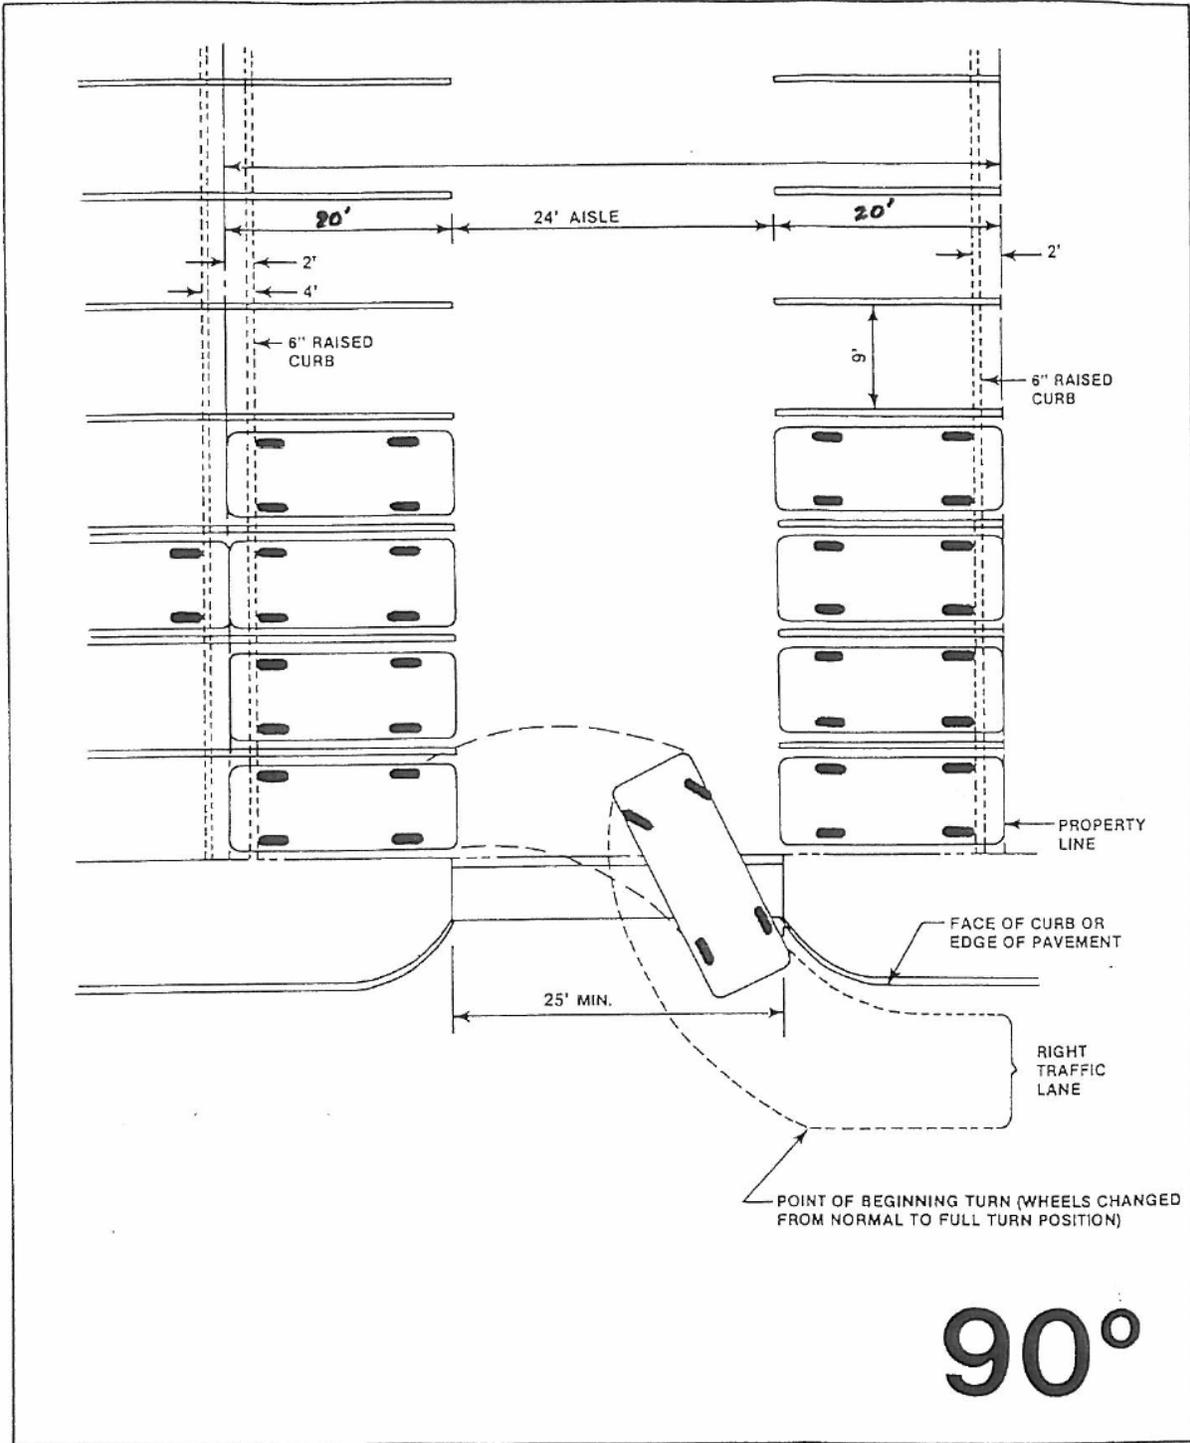

Figure 2.6a: 90° Parking – Double Row
- a) Ninety-degree parking (Figures 2.6a and 2.6b) – All parking spaces shall be a minimum of nine (9) feet in width. Each parking space adjacent to a building shall not be less than twenty (20) feet in length. Dual head in parking spaces should be a minimum of twenty (20) feet in length. Parking spaces not adjacent to a building or dual head may be eighteen (18) feet in length with two (2) feet of clear (no obstruction including landscaping, lighting, wheel stops, and/or signage) over hang between curb and sidewalk or property line. Maneuvering space shall not be less than twenty-four (24) feet.